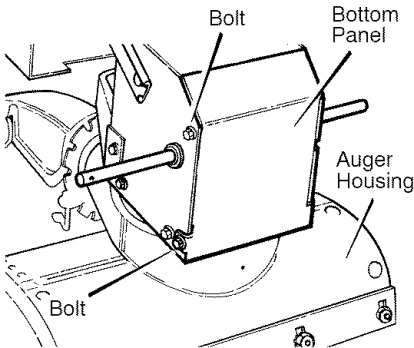

Figure 28
2. Loosen the **bolts** on each side of the **bottom panel** (see Figure 28).
18. Install the **bottom panel** (see Figure 28).
13. Install the **bottom panel** (see Figure 28).